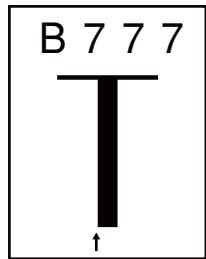
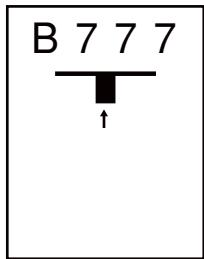

Fig.9
Fig.10
- (1) When the approaching aircraft is within 20 meters from the stopping position, the shaft of the illuminated "T" will start to reduce in its length from the bottom to indicate the approaching rate of the aircraft, indicating the remaining distance to the stopping position successively. (Fig.9, Fig.10) As the aircraft approaches the stopping position, the shaft of the illuminated "T" will retract one row for every 0.3 m.